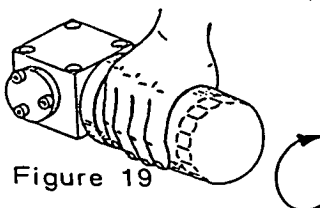

Figure 19
- Screw in the new filter manually until the cartridge gasket fits tightly. (Figure 19) Hand-tighten only!